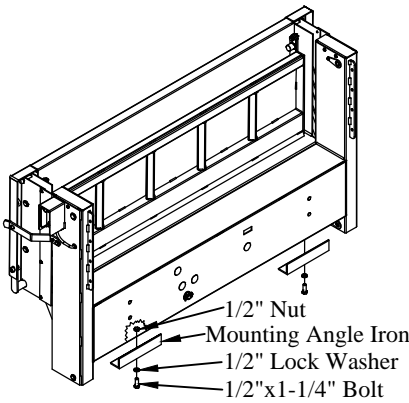

Figure 13: Mounting angle iron location.
1. **Install** the two (2) mounting angle irons to the bottom of the liftgate (Figure 13).